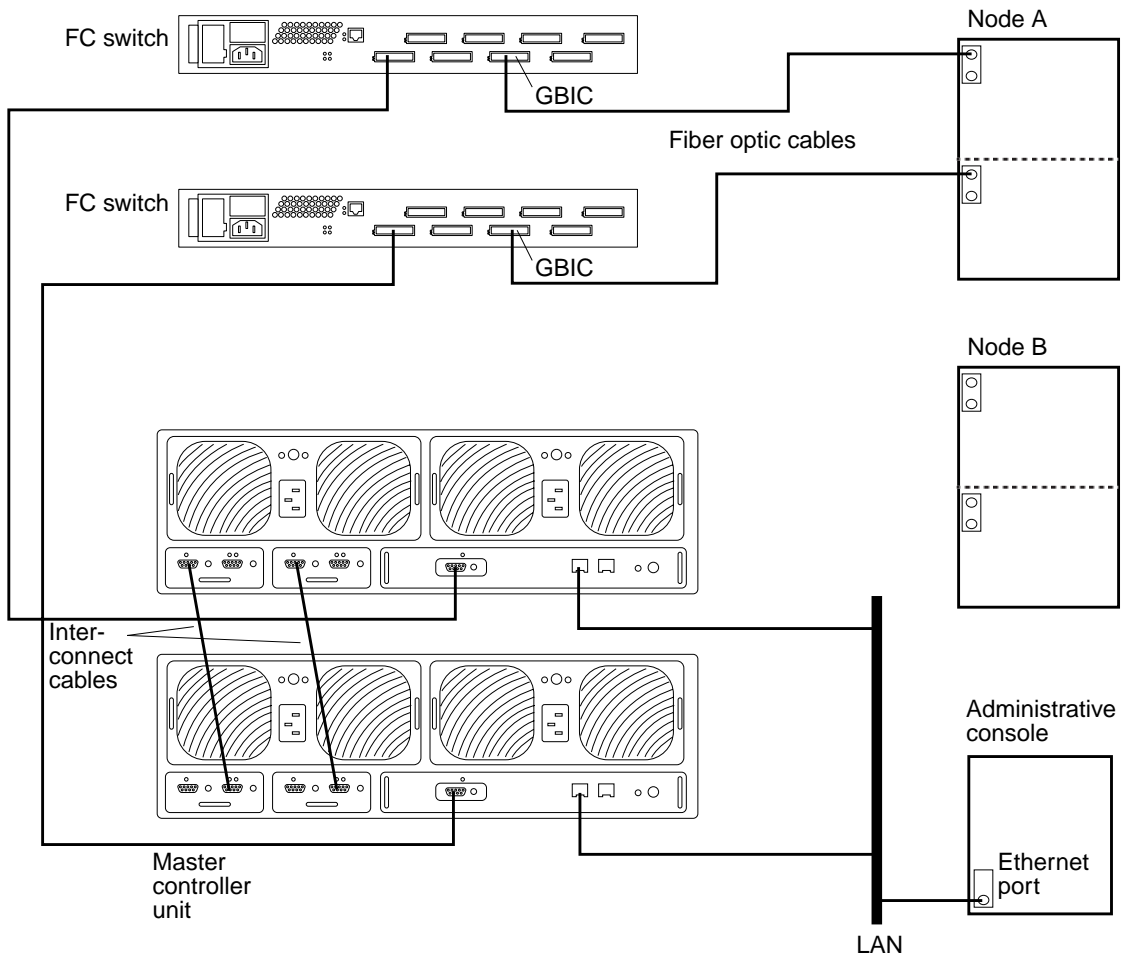

FIGURE B-3 Adding Sun StorEdge T3/T3+ Disk Trays, Partner-Group Configuration
24. If necessary, install GBICs to the FC switches, as shown in FIGURE B-3.
25. Connect fiber optic cables between Node A and the FC switches, as shown in FIGURE B-3.